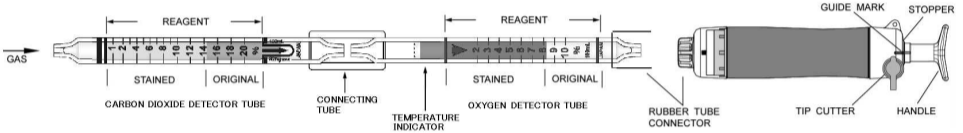

Fig. 1
- ① Heat the temperature indicator of the Oxygen detector tube with a match or cigarette lighter until the indicator is changed from pale pink to pale purple.
- ② Break both ends of the detector tubes and connect each end of the detector tubes with connecting tube as shown in Fig.1.
- ③ Insert the end of the detector tubes into the aspirating pump securely as shown in Fig. 1. (Arrow marks shall point to the pump.)
- ④ Align the guide marks on the handle and stopper of the aspirating pump.
- ⑤ Pull the pump handle at a full stroke until it locks and wait for 8 minutes or until the completion of sampling is confirmed with the flow indicator of the pump. (See descriptions about the flow indicator in the instruction manual of the pump.)
- ⑥ On completion of sampling, read the scales at the maximum point of the stained layer.
- ① Temperature; Correct the tube reading for Oxygen detector tube by following temperature correction table.